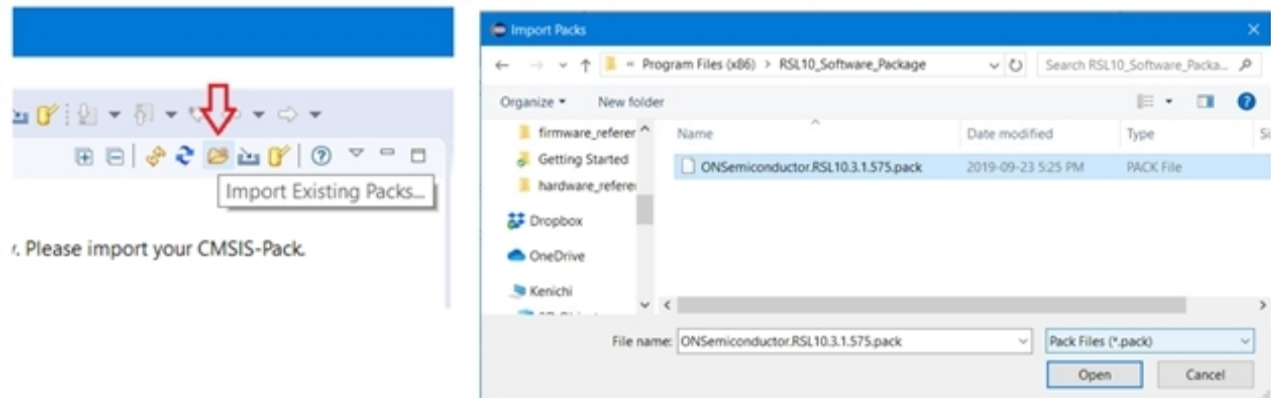

Figure 3. Installing the RSL10 CMSIS-Pack
4. Click on the Import Existing Packs icon, select your pack file *ON Semiconductor\RSL10\<version>.pack*, where *<version>* is a number such as 3.1.575, and click **Open** (see the figure “Installing the RSL10 CMSIS-Pack” (Figure 3)).